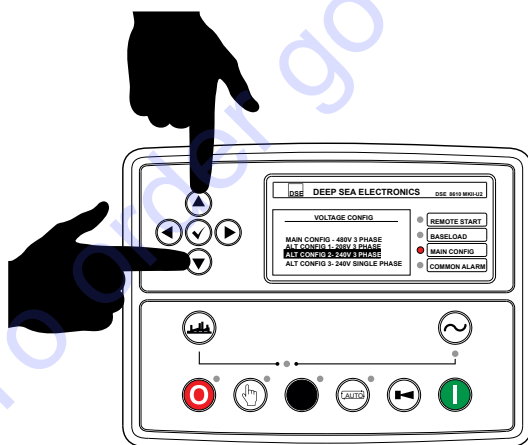

Figure 42. Voltage Config Screen
- Verify that the "**VOLTAGE CONFIG**" screen (Figure 42) is displayed.
- Use the **UP/DOWN** arrows (Figure 42) to select the desired output voltage.
- Verify that the selected voltage being displayed on the Voltage Config Screen (Figure 42) is the same voltage as indicated by the voltage selector switch (Figure 38).